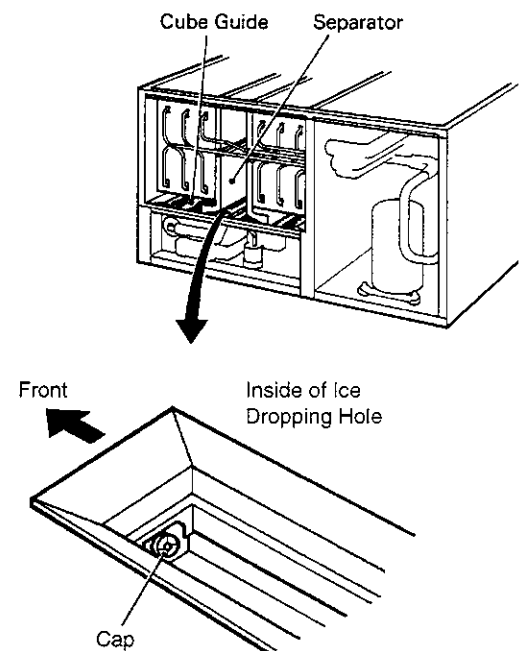

Fig. 4
- 3) Drain the Water Tank by removing the Insulation Panel and the cap at the front of the ice dropping hole. See Fig. 4.
- 3) Drain the Water Tank by removing the Insulation Panel and the Cap located on the front bottom part of the Ice Dropping Hole. See Fig. 4.
- 5) Drain the Water Tank by removing the Cap located on the front bottom part of the Ice Dropping Hole. See Fig. 4.
- 27) Drain the Water Tank by removing the Cap located on the front bottom part of the Ice Dropping Hole. See Fig. 4.